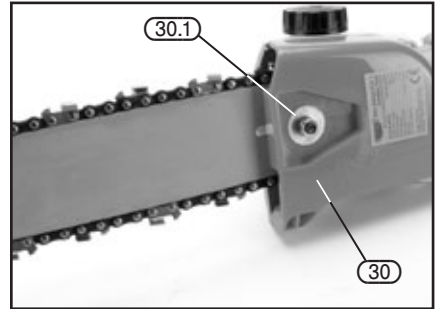

FIG. 4
### 9.1 FITTING AND REMOVING THE CHAIN AND GUIDE BAR - FIGS.4 - 6
- With the engine stopped and the 10mm nut (30.1) (Fig.4) finger tight, hold the tip of the bar up.